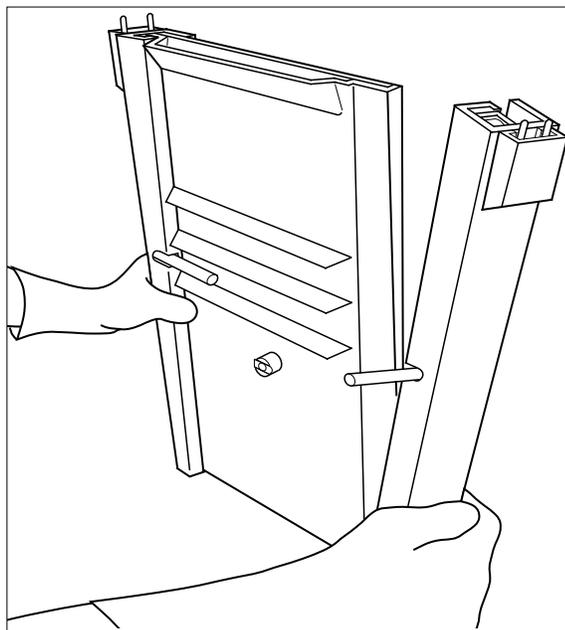

Fig. 4.2. Attaching full-length lever clamps.
- The levers of the clamps should be on the IPC panel side of the assembly and need to be facing away from the unit (perpendicular to the IPC panel) for the clamps to slide easily onto the assembly. Secure the clamps to the IPC/glass plate sandwich by moving the levers toward the IPC panel (Figure 4.2).